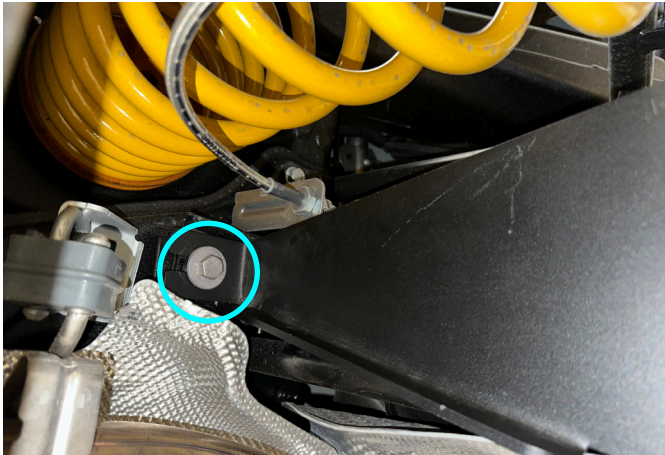

Fig. 5
5. Install the rear bracket (item 3) and fix it using factory bolt as shown in fig.5.